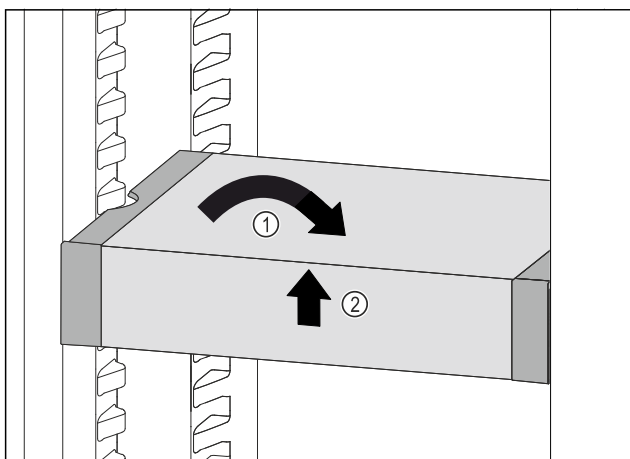

Fig. 149
- ▶ Set VarioSafe straight. Fig. 149 (1)
- ▶ Lift VarioSafe at the front. Fig. 149 (2)